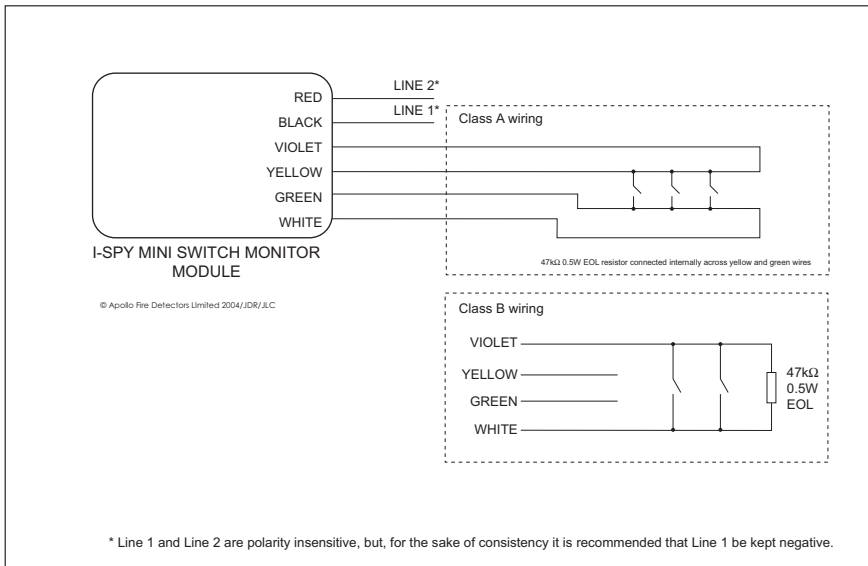

Fig 2. Wiring Diagram for I-Spy Mini Switch Monitor and I-Spy Mini Priority Switch Monitor Modules
2. Connect the modules for Class A wiring or Class B wiring (Fig 2). Bit 8 of the DIL switch is used to select the class of wiring. All wiring must conform to local codes and regulations.